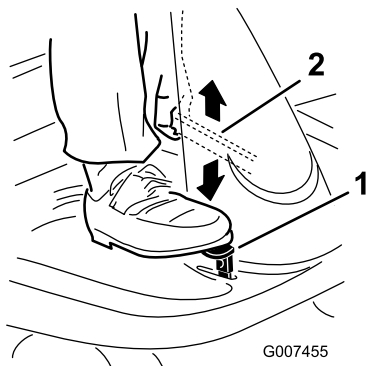

Figure 4
1. Push down on the brake pedal (Figure 4) and hold it.
2. Push the parking brake lever (Figure 4) down and gradually release the brake pedal.
1. Push the brake pedal down and hold it (Figure 4).
2. Lift the parking brake lever (Figure 4) up and gradually take your foot off the brake pedal.